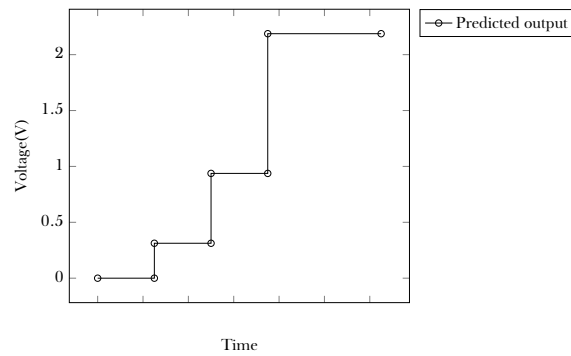

Figure 3: Predicted output
- C.1) The prediction is as in **Figure 3**.